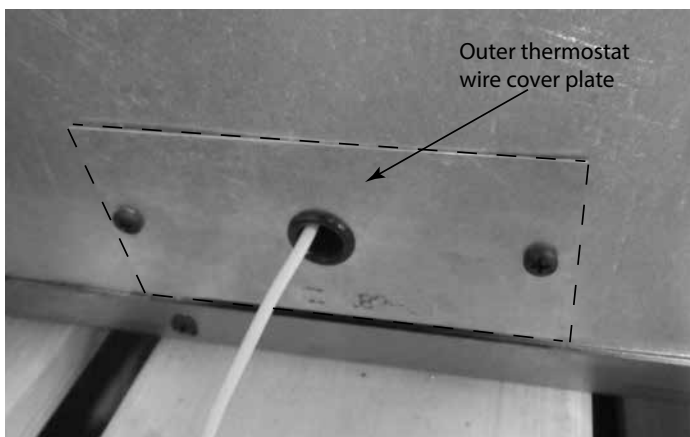

Figure 4.8 Thermostat wire installed through outer cover plate
- Reinstall outer thermostat cover plate. See Figure 4.8.